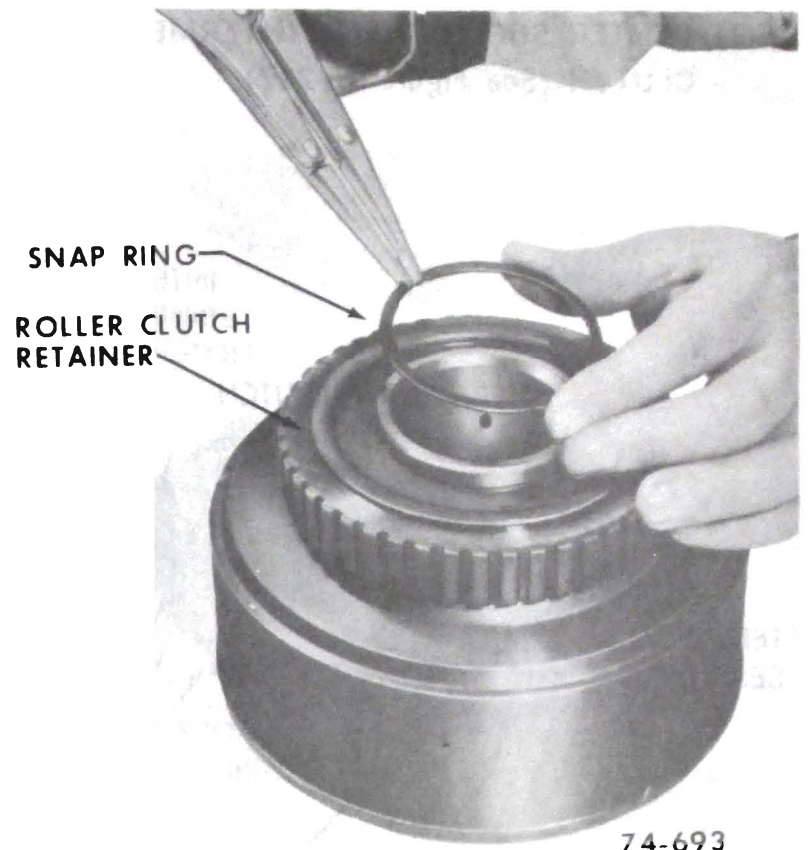

Figure 76-215
14. Install roller retainer snap ring. See Figure 76-215.